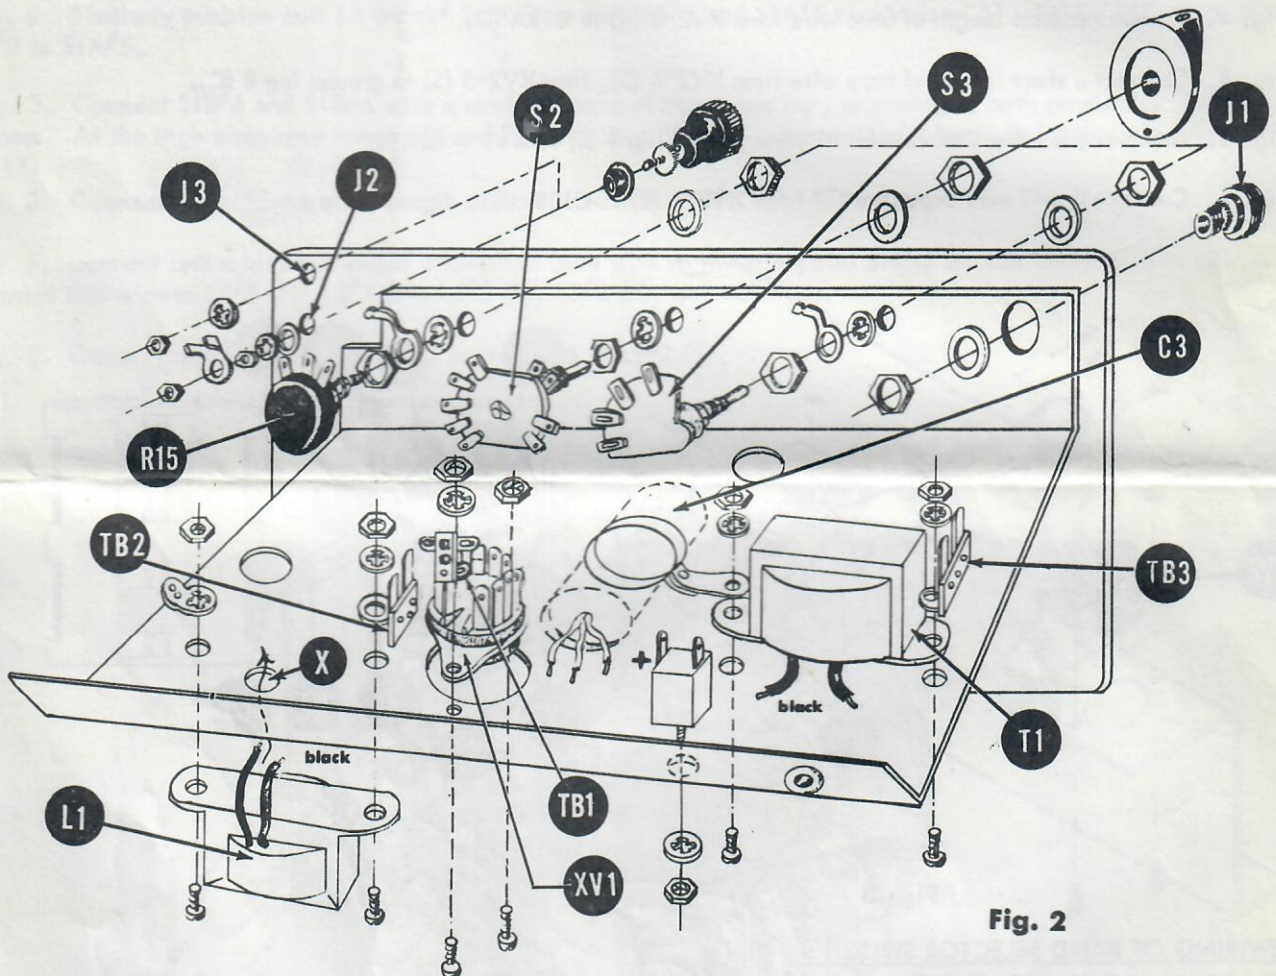

Fig. 2
- () Fig. 2. Mount the power transformer T1 to the chassis. Along with it mount the 2X20 electrolytic capacitor C3 at the 1 post right w/gnd terminal strip TB3. Use 2 #6-32 X 1/4 screws, 2 #6 lock washers, and 2 #6 hex nuts.
- () Fig. 2. Mount the selenium rectifier CR1, positioning it with the positive terminal as shown. Use 1 #6 lock washer and 1 #6 hex nut.
- () Fig. 2. Mount the 9-pin miniature socket XV1, positioning it with the blank (no pin) sector as shown. Along with it mount terminal strip TB1 (double lug - not grounded). Use 2 #4-40 X 1/4 screws, 2 #4-40 hex nuts, 1 lock washer, and 1 ground lug.
- () Fig. 2. Mount a.f. resonating choke L1 to the chassis, first passing the 2 black leads through hole "X". Along with it mount the 2 post terminal strip TB2. Use 2 #6-32 X 1/4 screws, 2 #6-32 hex nuts, 1 #6 lock washer, and 1 ground lug.
- () Fig. 2. Mount the male amphenol connector J1 (RF OUT) to panel and chassis using the hardware shown.
- () Fig. 2. Mount the 250K Ω AF/MOD OUT potentiometer R15 to panel and chassis, using 2 - 3/8 hex nuts, 1 - 3/8 lock washer, 1 ground lug, and 1 panel washer. The inside hex nut should be used as a back-up nut so that the potentiometer bushing does not extend past the outside nut.
- () Fig. 2. Mount the RF COARSE switch S3 to panel and chassis using the same hardware as above including the ground lug. Note the positioning of S3 in the drawing and observe it in the mounting. Do not tighten outside hex nut finally as yet.
- () Fig. 2. Mount the SIGNAL SEL. switch S2 to panel and chassis using the same hardware as above but no ground lug. Note the position of S2 in the drawing and observe it in the mounting. Here also do not tighten the outside hex nut
- () Fig. 2. Place the panel and chassis on its side. Use a pair of pliers to turn the shafts of both the SIGNAL SEL. switch S2 and the RF COARSE switch S3 to the furthest counter-clockwise position. Next orient switch S2 so that the flat on the shaft faces away from the POWER OFF position and tighten the panel nut finally. Now orient switch S3 so that the flat on the shaft faces away from the LO position and then tighten the S3 panel nut finally. The assembly of panel to chassis is now completed.
- () Fig. 2. Mount the AF IN/OUT binding posts J2 and J3 on the panel. Note that J2 is insulated from the panel and that J3 is not insulated. Use 1 #8 fibre shoulder washer (for insulation), 1 #8 fibre flat washer, 1 #8 lock washer, 1 #8 lug, and 2 #8 hex nuts to mount J2 and the same hardware less the fibre flat washer and the lug to mount J3.
- () Fig. 2. Install the 3/8" rubber grommet in the hole provided in the rear chassis apron. Squeeze the grommet into oval shape to start it in the hole and then work it in completely with a small screwdriver.